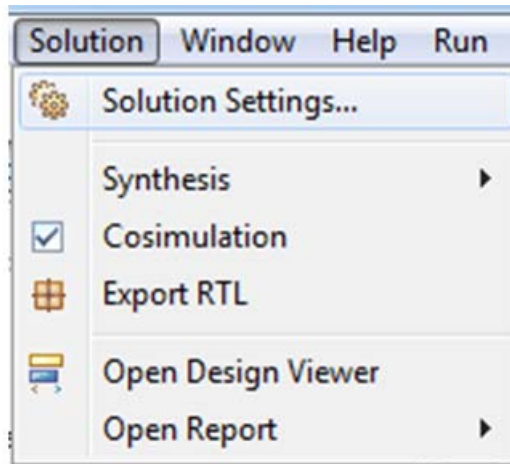

Figure 3-11: Solution Settings
4. Click **Solution** > **Solution Settings** (Figure 3-11).